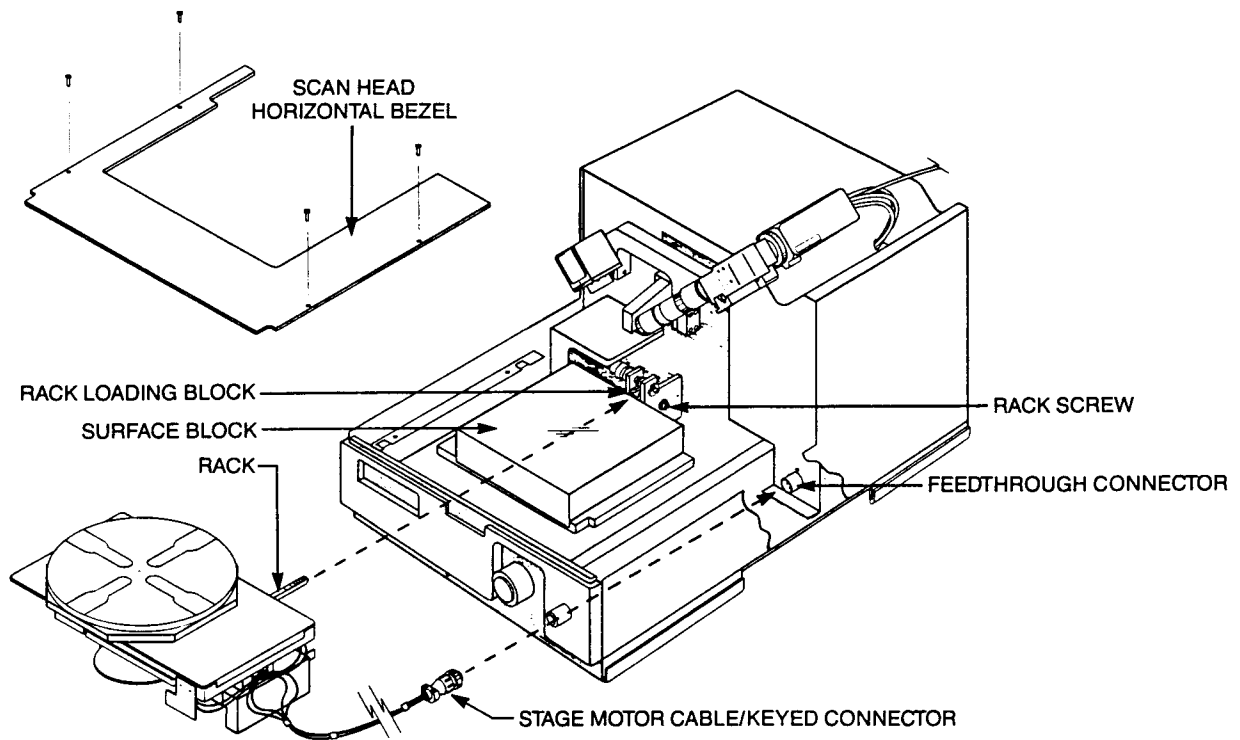

Figure 1-16. Stage Installation
1. Raise the optics to uppermost position using the large black knob (optics height) on the front of the Scan Head assembly (see Figure 1-16).
2. Referring to Figure 1-16, use a 3/32" driver to remove the four socket head screws on the Scan Head horizontal bezel.